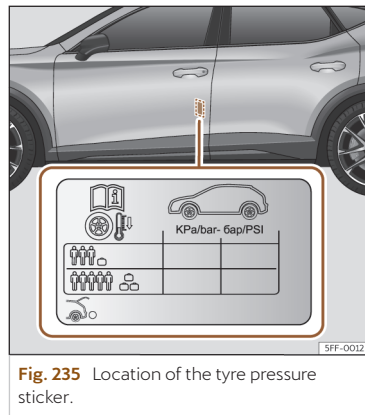

Fig. 235 Location of the tyre pressure sticker.
- Adjust tyre pressure to the load being carried by the vehicle >>> **Fig. 235**.
The tyre pressure values are shown on the sticker located on the rear frame of the front left door >>> **Fig. 235.**
The tyre pressure must be adjusted according to the load the vehicle is carrying. If the vehicle is going to be fully loaded, increase the tyre pressure to the maximum load value shown on the sticker >>> **Fig. 235.**
In the case of a minimised temporary spare wheel (125/70 R16 or 125/70 R18) inflate to a pressure of 4.2 bar as indicated on the tyre pressure label >>> **Fig. 235.**
- The driver is responsible for ensuring that all of the vehicle tyres are correctly inflated to the right pressure. The recommended tyre pressure is indicated on the label >>> **Fig. 235.**
- Tyre pressure should be as indicated on the label when the tyres are cold at all times >>> **Fig. 235.**